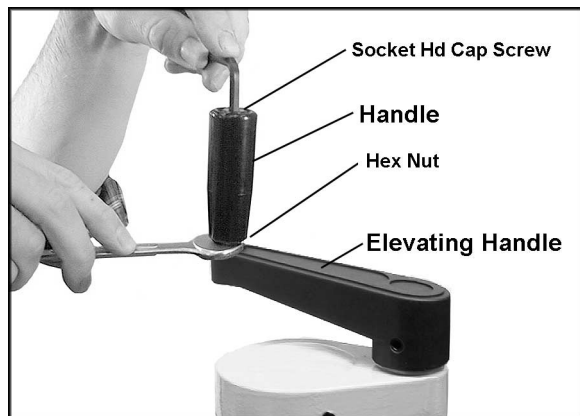

Figure 4
9. Attach a handle (Figure 4) to each elevating handle, by screwing the threads of the handle into the hole on the elevating handle.
10. The handle (Figure 4) should be adjusted so that it can move freely. Loosen the hex nut with a 14mm (9/16") wrench, and turn the socket head cap screw with a 5mm hex wrench until the handle is just loose enough to turn freely. Then tighten the hex nut against the elevating handle.